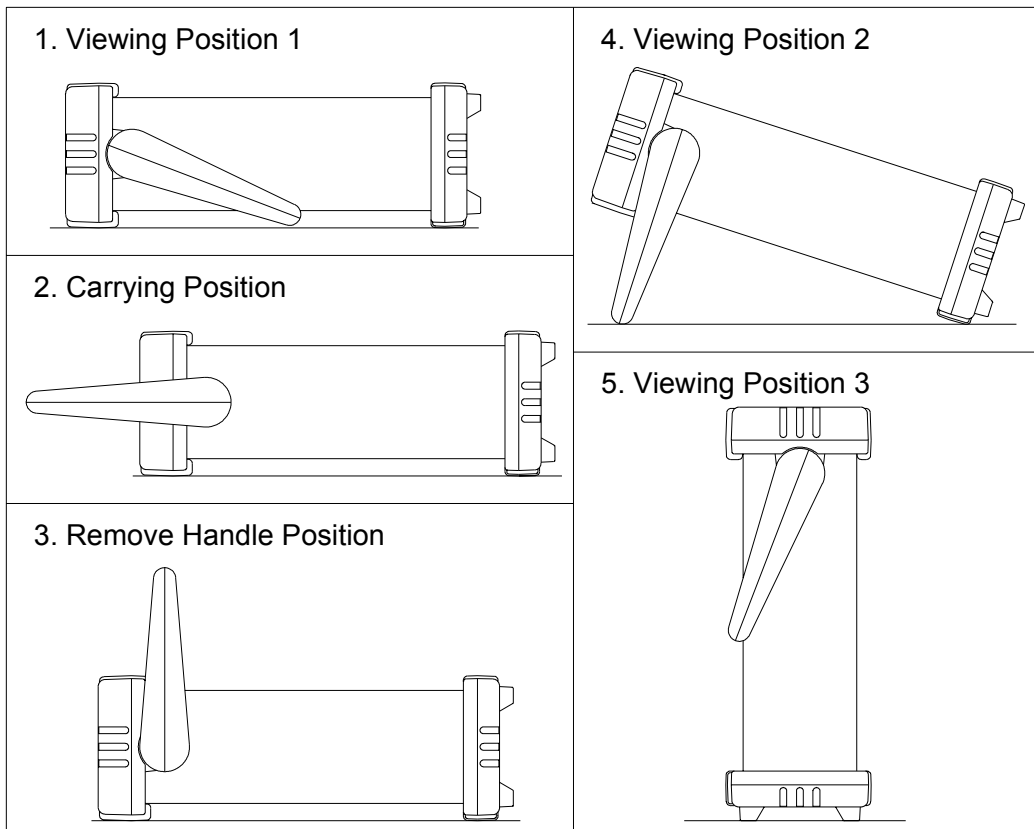

Figure 2-3. Adjusting Handle
For bench-top use, the handle can be adjusted to provide three viewing angles. For viewing positions, pull the ends out to a hard stop (about 1/4 inch on each side) and rotate it to one of four stop positions (shown in Figure 2-3).
1. Adjusting the handle of the meter to its upward vertical stop position (refer to Figure 2-3) and pull the ends all the way out.